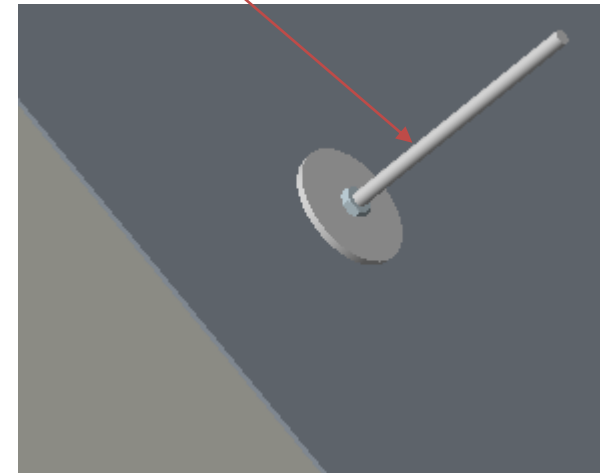
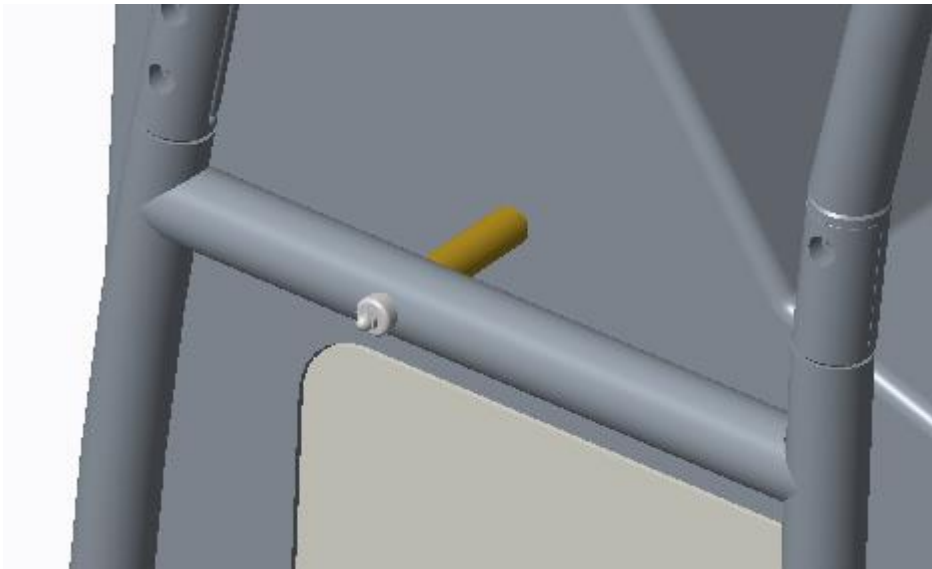

Fig. 11
Fig. 10
- Installed the lateral support as shown in Fig. 10, Fig. 11